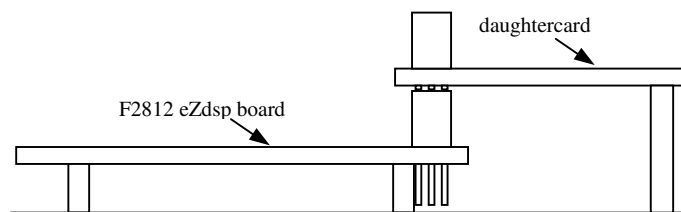

Figure 1
3. Install the two long nylon standoffs on the daughtercard using the two nylon screws. Similarly, install the four short nylon standoffs on the eZdsp board. Plug the LR-F2812COM daughtercard into the eZdsp, insuring that all 30 pins on the daughtercard properly mate with the corresponding 30 pins on the eZdsp. Figure 1 shows the orientation of the daughtercard in relation to the eZdsp board.